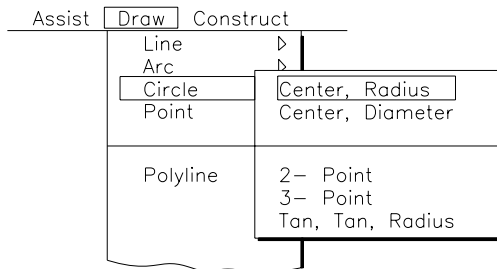

Fig. 1.6
- *din meniul pull-down* (fig. 1.6)